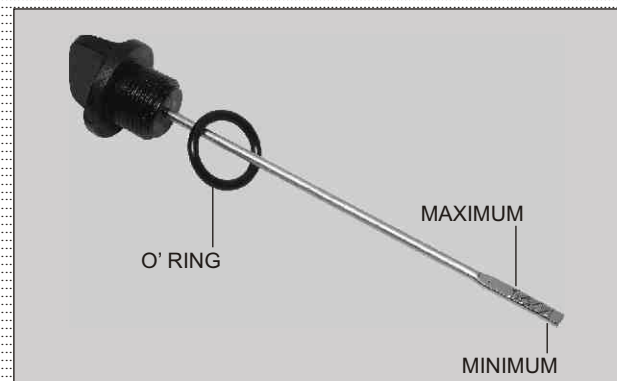

Fig. 2.36
- Check oil level. The oil level should be between minimum and maximum level. (Fig. 2.36)